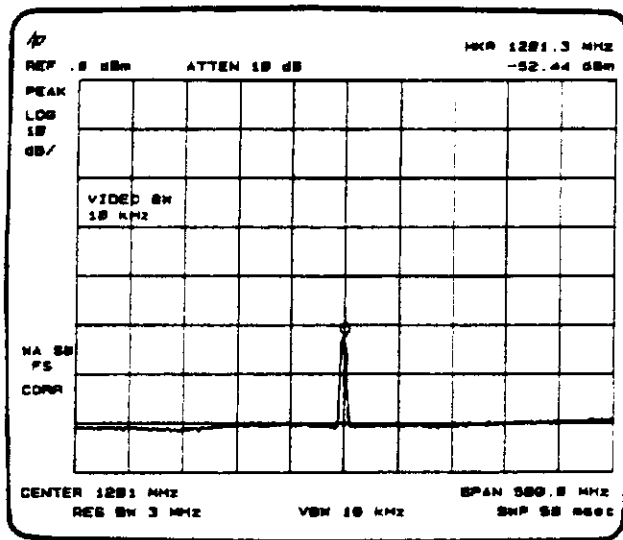

Figure 2-11
2. Press **[PEAK SEARCH]**. See Figure 2-11. Move the marker to read the amplitude and frequency of the signal.